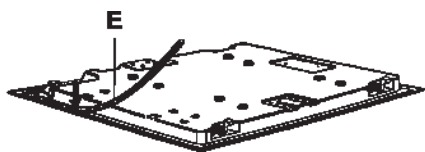

FIG. 9
- Overturn the hot plate and correctly position seal "E" (fig. 9) on top of the upturned edge of the hotplate flat with the outer side of the strip in line with the external perimeter of the top, pay attention not to sink the seal between the space bottom/top rim.